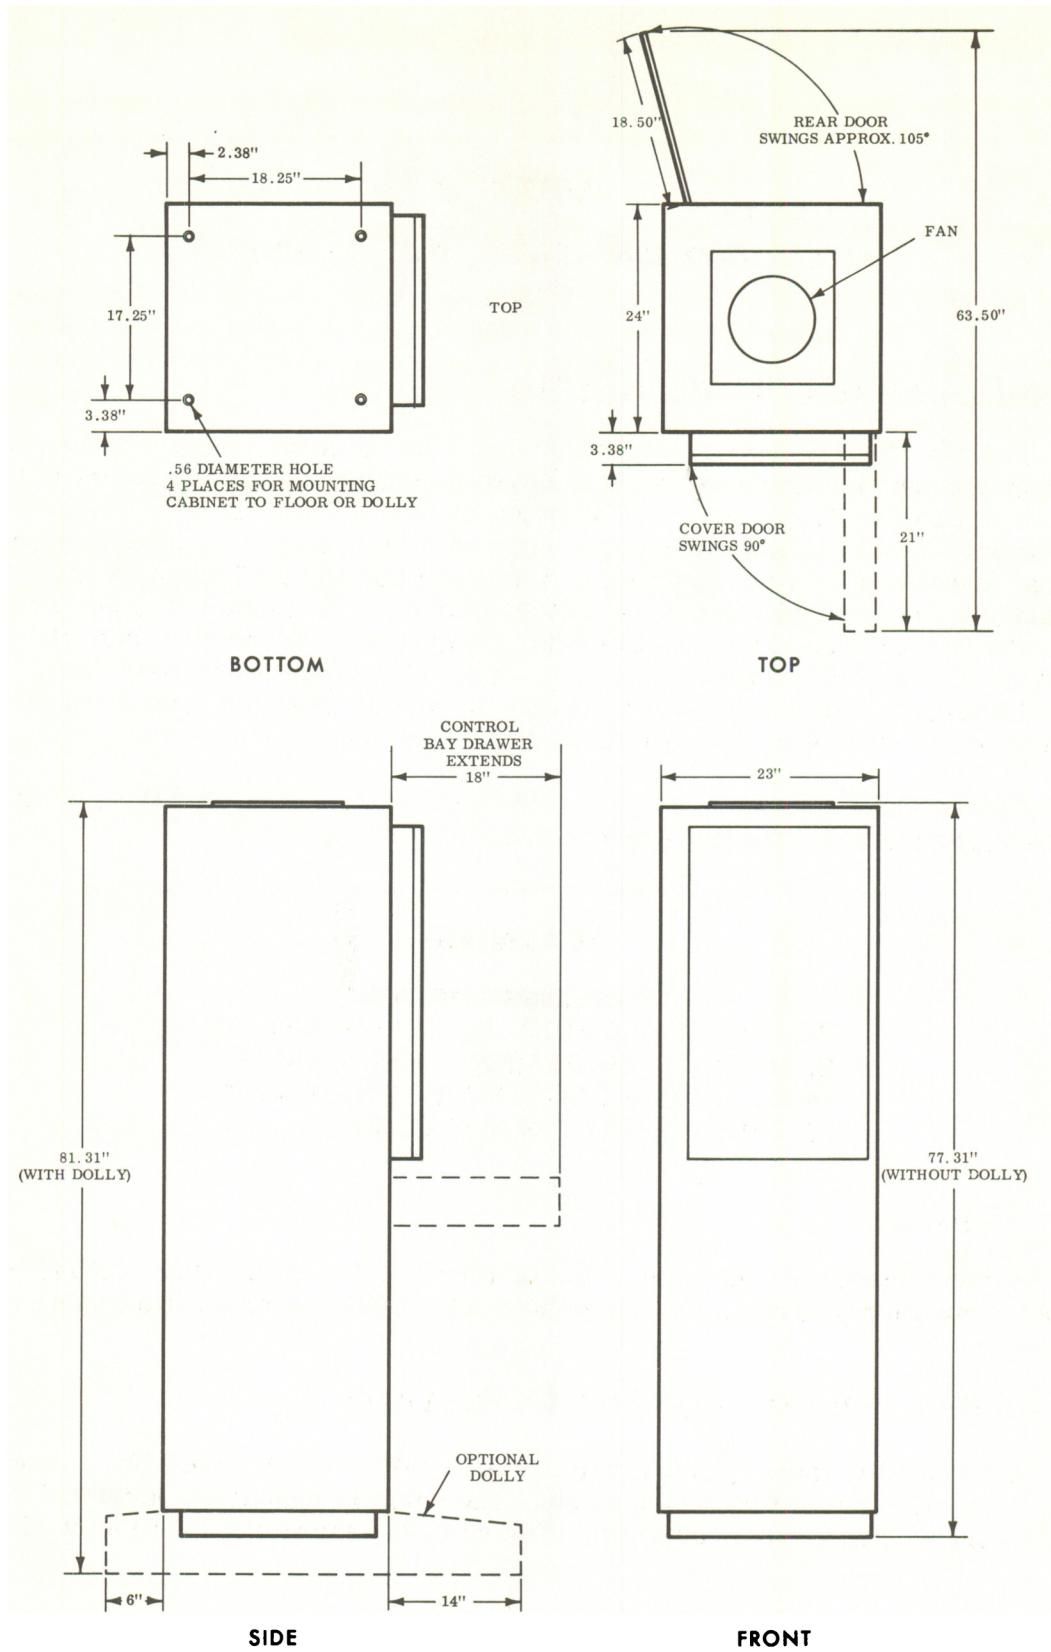

Figure 2.2-1. Overall Dimensions and Clearances
2.2-3 Figure 2.2-1 shows the recorders' overall dimensions, and the required clearances for swinging doors, transport extensions, etc.